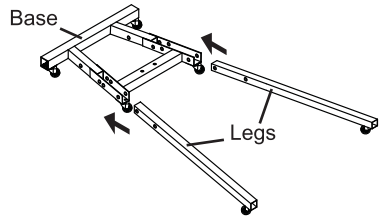

Figure 4
4. Slide Legs (23) into front of the Base (15). See Figure 4.